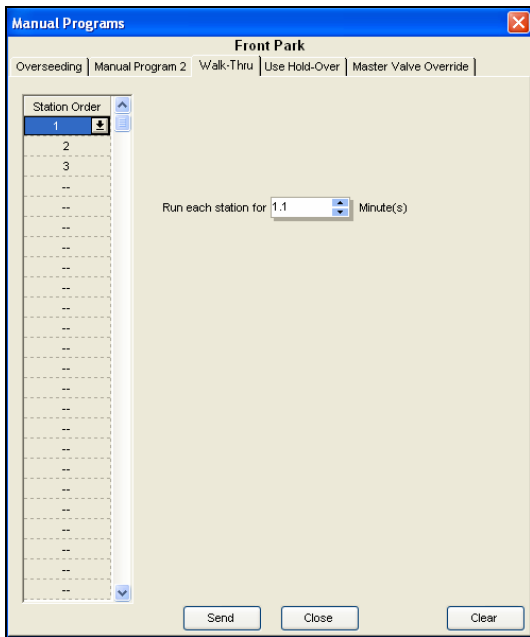

Figure 17.2.12
1. When you click on the **Walk Thru** tab the “**Walk Thru**” screen will appear (Figure 17.2.12).